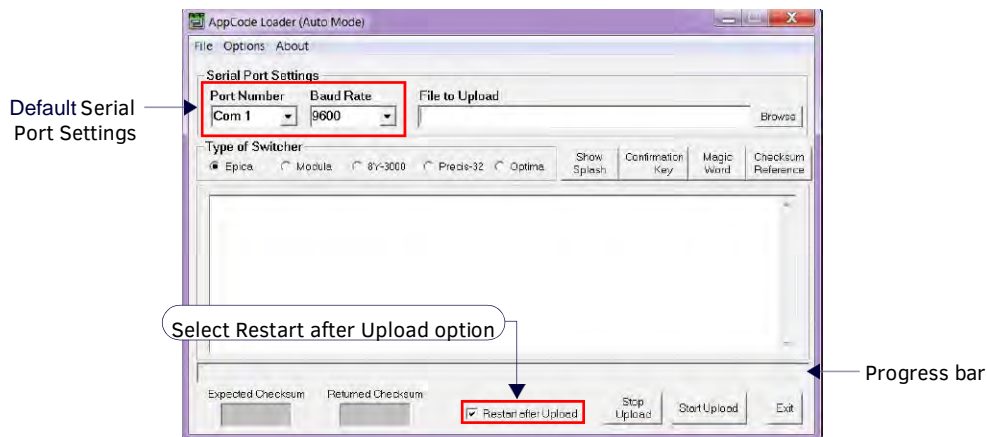

FIG. 160 AppCode Loader
8. Open the AppCodeLoader program (FIG. 160):